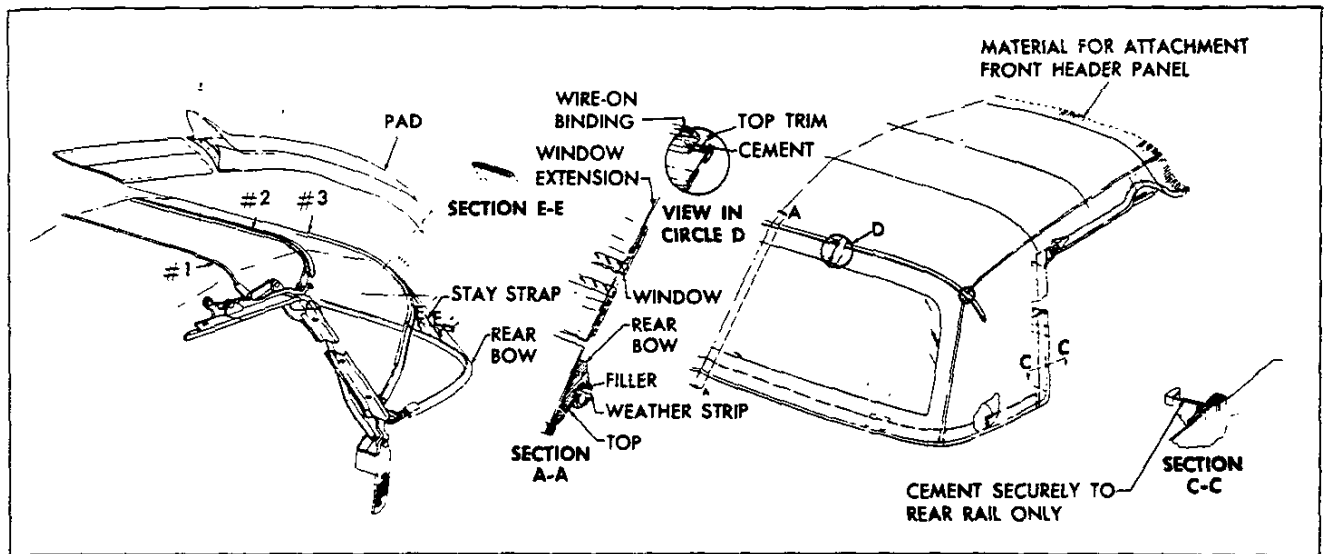
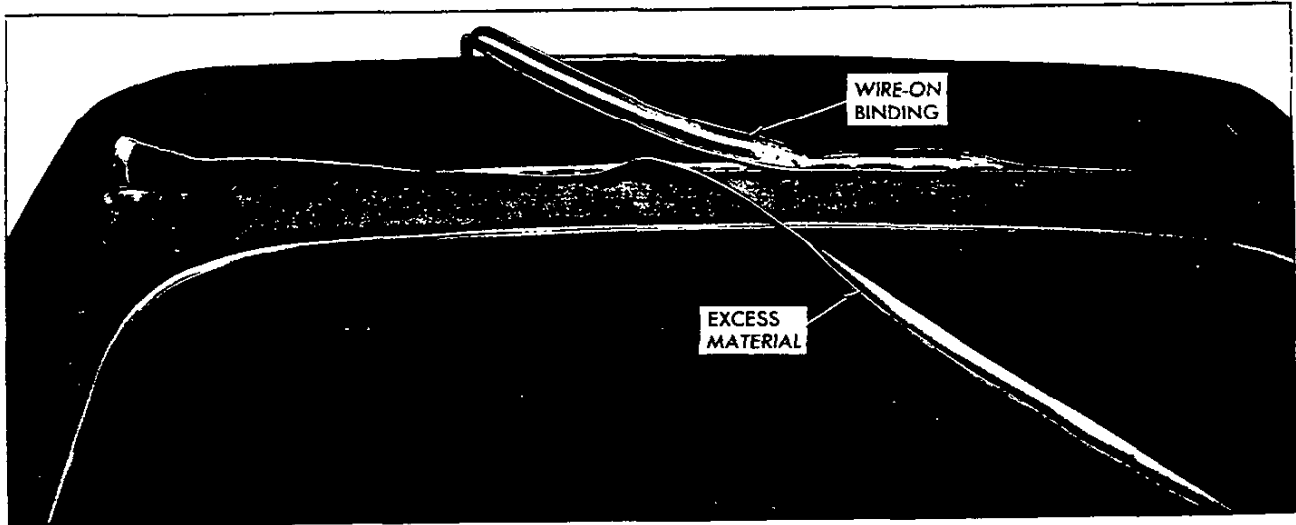
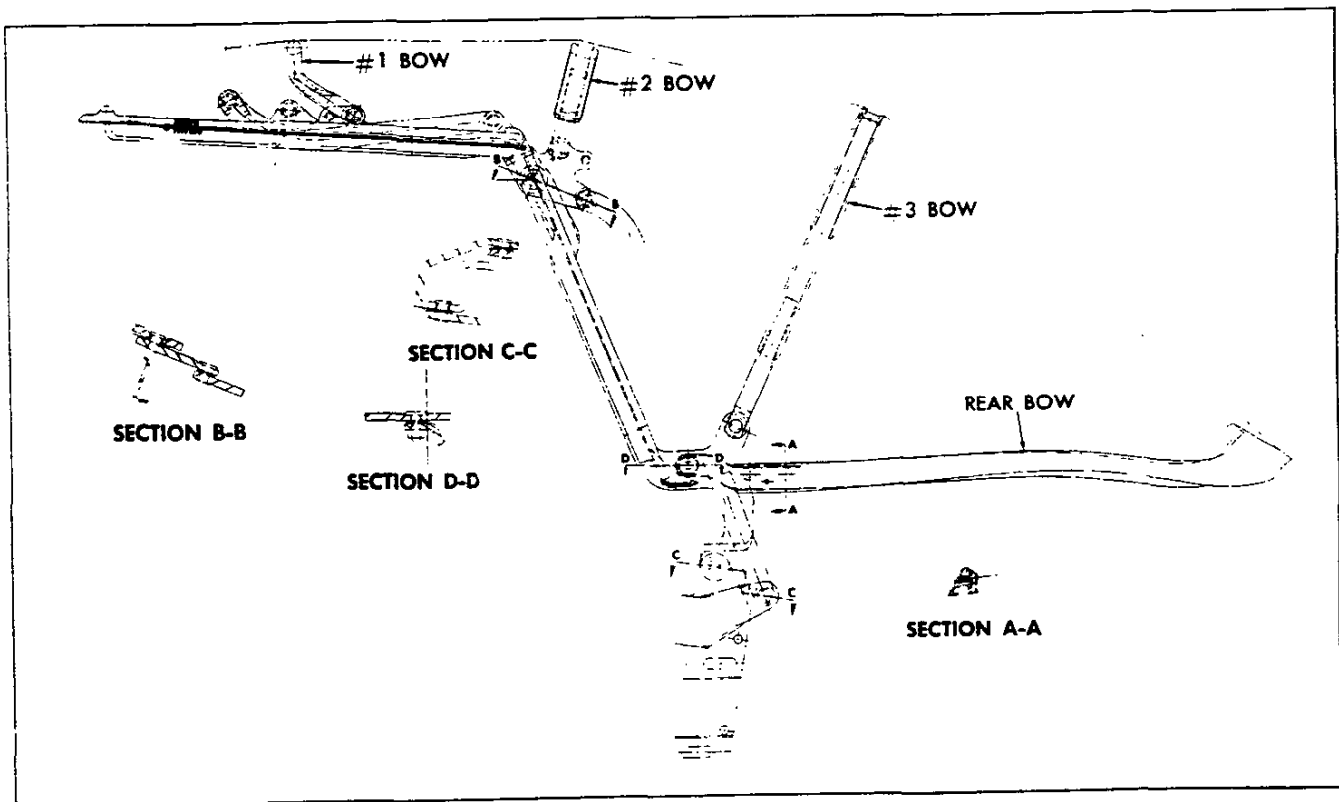

Fig. 69—Folding Top Trim Installation
Fig. 76-Installing Binding
Fig. 77-Top Frame and Linkage
The following information deals with removal and installation of the folding top trim and window assembly complete. Figure 69 may be referred to for parts identifications. Lettered sections (i.e. Section A-A) referred to in the instructions may also be found in Figure 77. Note that the sections are illustrated as they would appear if the parts were cut through on the lettered lines on the top assembly and the cut surface exposed. Arrows indicate direction in which you would have to look in order to see the view shown.
8. Draw window extension up to #3 bow, aligning centering marks. Turn an ample amount of fabric under and tack to #3 bow. Apply neoprene trim cement, GM Part #3695016 or equivalent, to area shown in View D of Figure 69. Follow directions on package.
10. Trim off excess material and install wire-on binding as shown in Figure 76 and View D of Figure 69. Install binding caps.
Figure 77 illustrates construction features of the folding top frame and linkage. Various cross sections in Figure 77 show the pivoting joints and their assembly.
### CENTER ROOF REINFORCEMENT TRIM REMOVAL (Fig. 77)